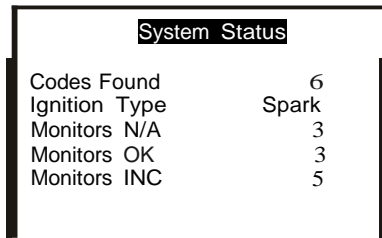
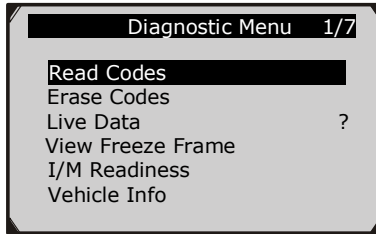

Figure 5.2
Figure 5.4
- 9) View a summary of system status (MIL status, DTC counts, Monitor status) on screen. (Figure 5.2) Wait a few seconds or press any key for Diagnostic Menu (Figure 5.4) to come up.
- 1) Use the **UP/DOWN** scroll buttons to select **Erase Codes** from **Diagnostics Menu** and press the **OK** button. (Figure 5.4)
- 1) To view live data, use the **UP/DOWN** scroll button to select **Live Data** from **Diagnostic Menu** and press the **OK** button. (Figure 5.4)